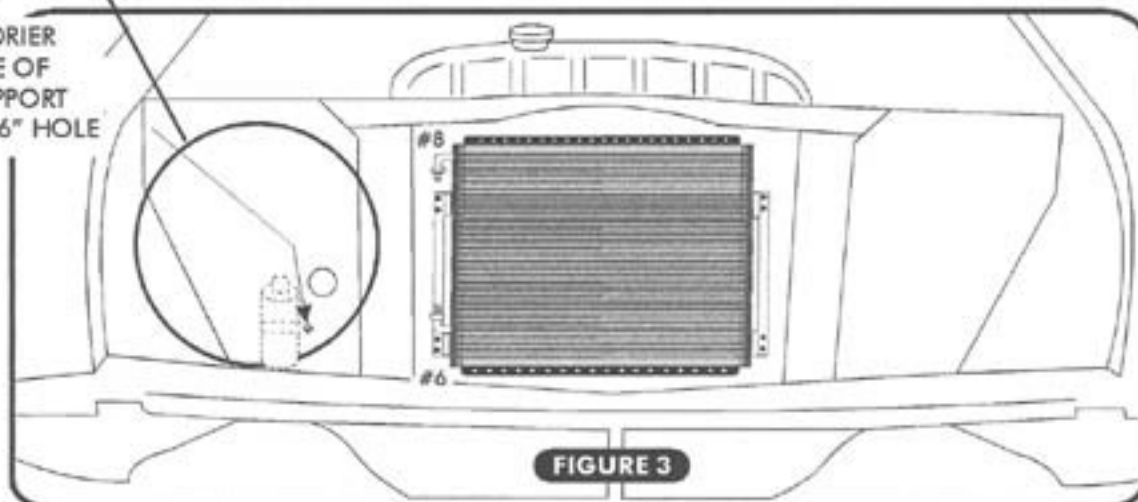

FIGURE 3
- ☐ SLIDE THE CONDENSER ASSEMBLY INTO POSITION. THE CONDENSER BRACKETS WILL BE HELD BETWEEN THE RADIATOR AND CORE SUPPORT, SECURED WITH THE SIX RADIATOR BOLTS. SEE FIGURE 3 & 3b BELOW. HOLDING THE CONDENSER IN POSITION, TIGHTEN THE SIX RADIATOR BOLTS.